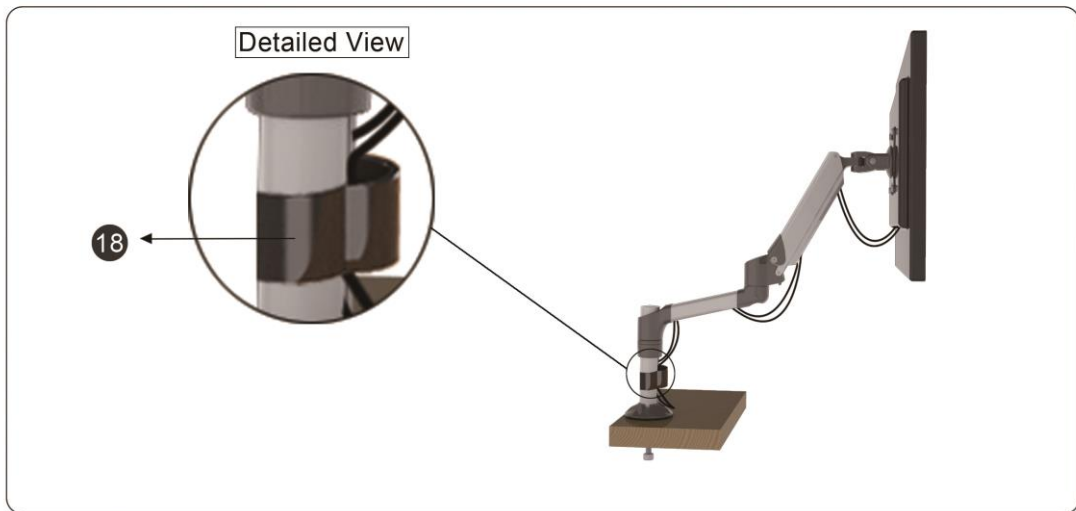

Figure 4-3
3. Attach the cable clip (18) to the mounting pole (See Figure 4-3).